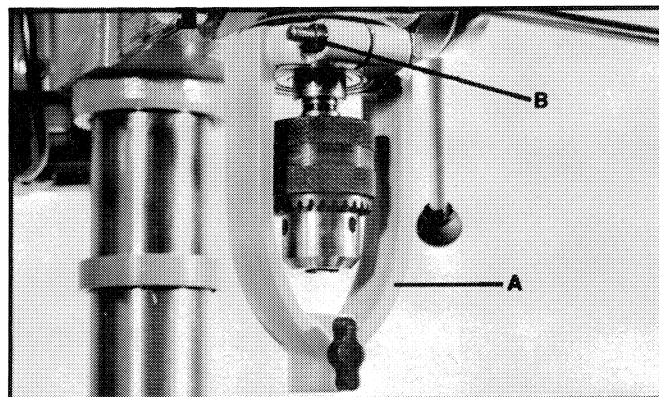

Fig. 10
1. Assemble the chisel holder (A) Fig. 10, to the drill press making sure the top of the chisel holder is located over the collar on the bottom of the spindle and tighten nut (B).